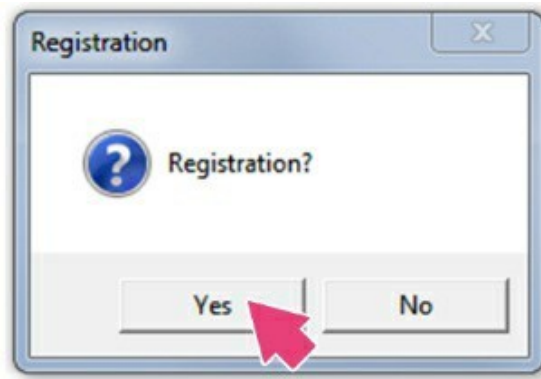

Figure 43
30. Confirm that you would like to register, select **Yes**. See Figure 43.